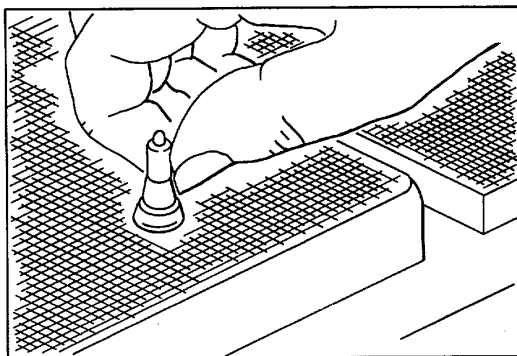

Figure 33. Lapping Spray Tip on Lapping Blocks
3. Place the part to be lapped flat on the block as shown in Fig. 33 and, using a figure eight motion, move it back and forth across the block. Do not press on the part, but use just enough pressure to keep the part flat on the block. It is important that the part be kept flat on the block at all times.